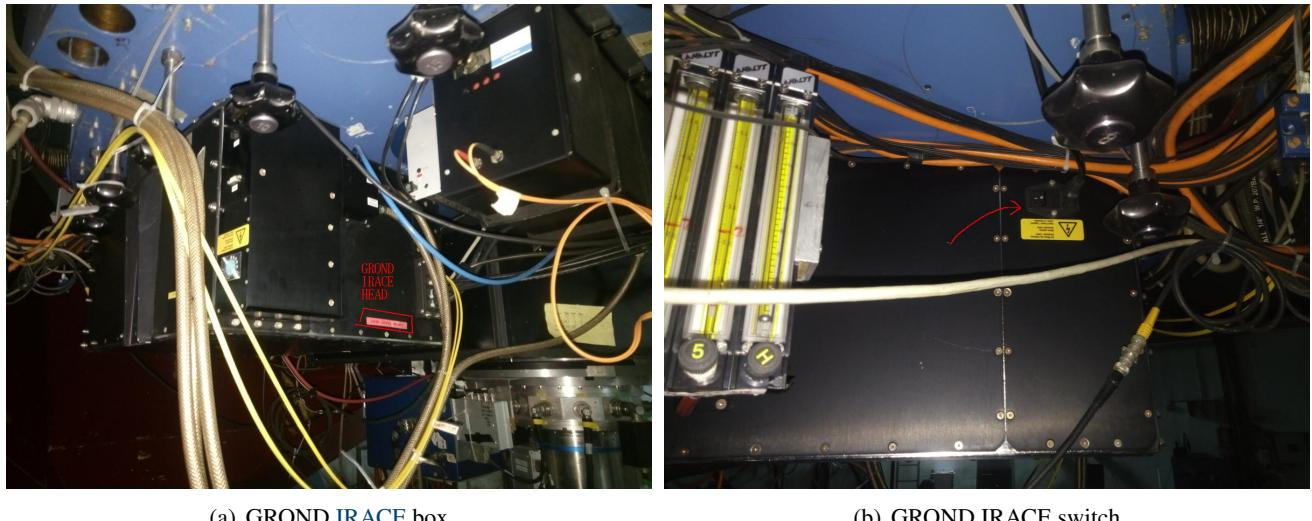

Figure 10.12: The GROND infrared electronics (IRACE) box below the main mirror of the telescope. The power switch is located towards the pier.
- E. Locate the power switch of the **IRACE** box (Fig. 10.12, p. 85) below the main mirror.